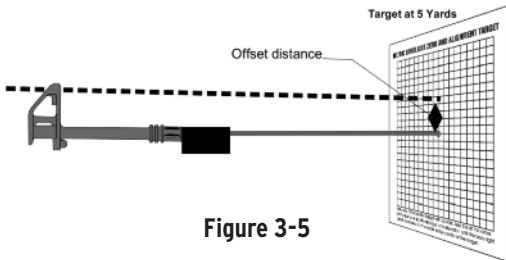

Figure 3-5
4. The distance between the point on the target where the laser point projected by the borelight strikes the target and the point on the target to where scope or sighting device needs to be aligned so that a bullet fired from the weapon will strike the aim point at a given range is the "Offset Distance". See Figure 3-5.